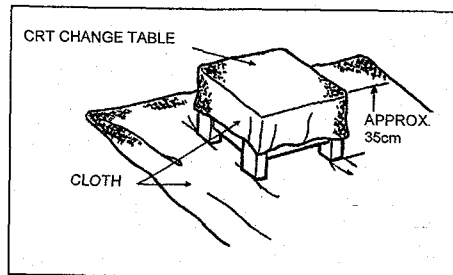

Fig. 3
- Putting the CRT change table on soft cloth, the CRT change table should also be covered with such soft cloth (shown in Fig.3).